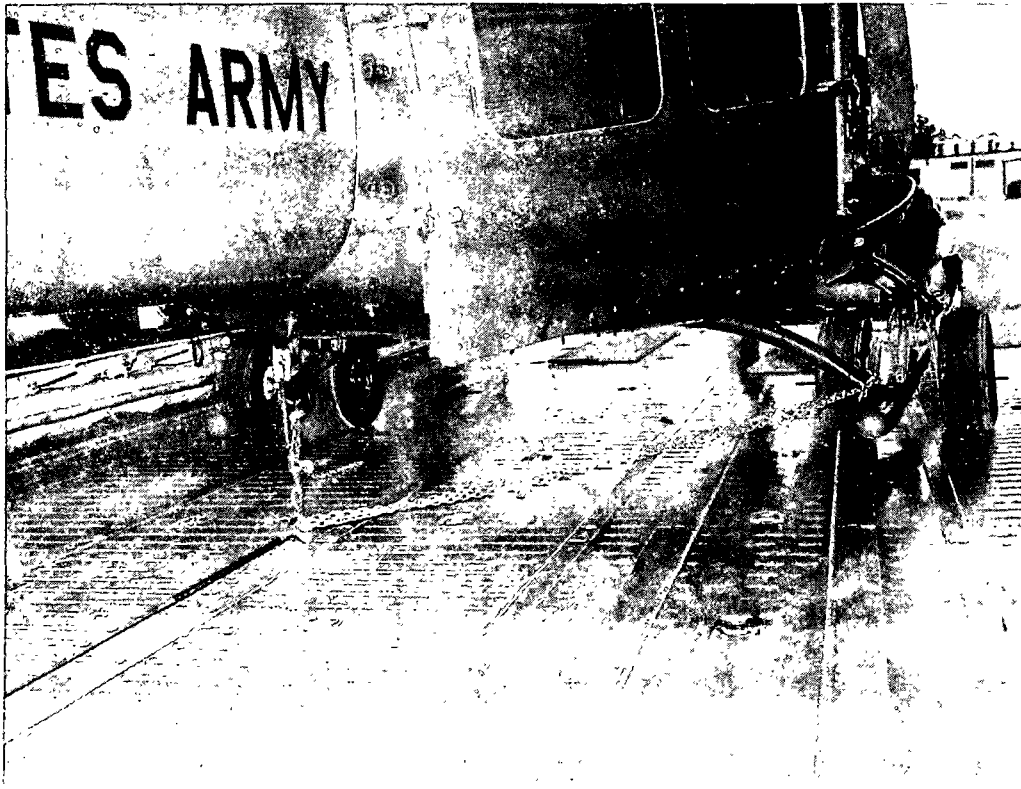

Figure 2-50. Towing bridle attached to rear cross tube when loading the UH-1 tail-first.
c. Form a towing bridle with the three tiedown chains and attach it to the helicopter front cross tube as shown in figure 2-19. The towing bridle is attached to the rear cross tube of those loaded tail-first as shown in figure 2-50.